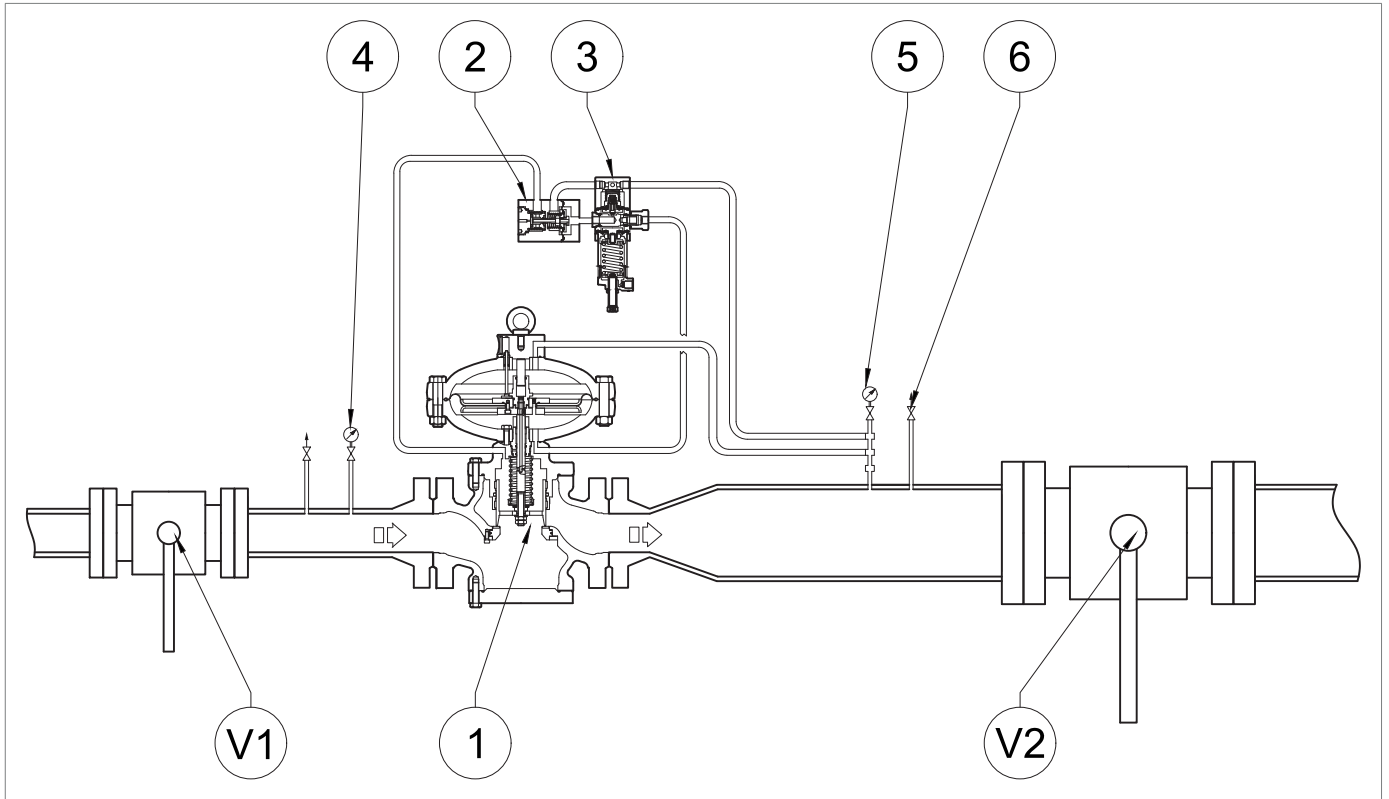

Fig. 8.29. Commissioning the regulator
1	<p>Increase the downstream pressure to the slam-shut valve by turning the adjustment screw (10) on the pilot (2) of the main regulator (1) to check the correct calibration.</p> <p>NOTICE!</p> <p>Check the pressure referring to the pressure gauge (Fig. 8.29, ref.5) downstream of the main regulator.</p> <p>If the slam-shut valve:</p> <ul style="list-style-type: none"> trips before the expected pressure value: screw in (clockwise) the adjustment ring nut (13) so as to further compress the spring (11); does not trip at the expected pressure value: unscrew (anti-clockwise) the adjustment ring nut (13) so as to relieve the spring (11).